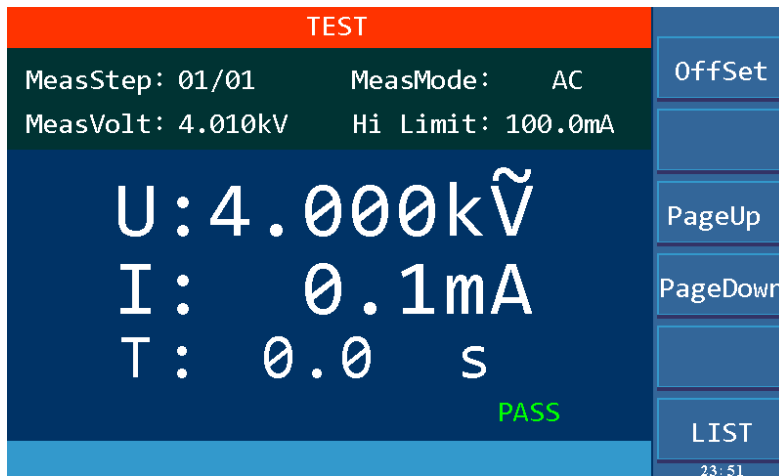
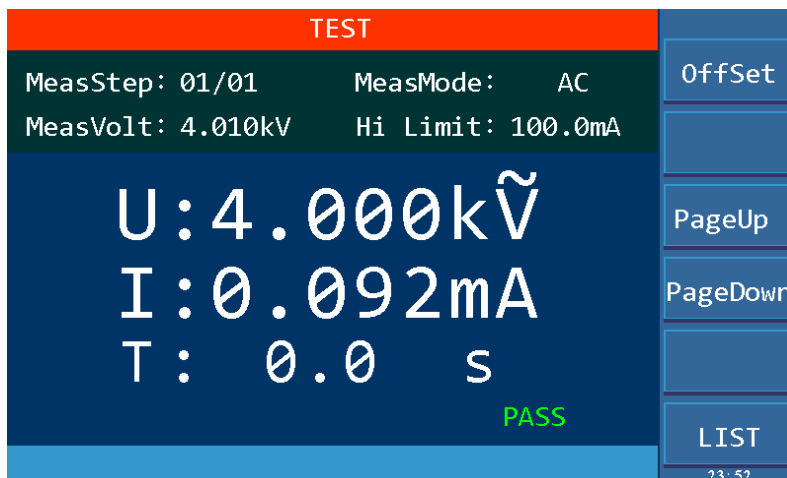

Figure4-4.2
Figure4-4.3
When the auto range, that is, the withstand voltage auto range function is set to ON, at 0.6S before the completion of the test, if the measured current can be expressed by the low current range, the current range is automatically changed to the low current range. Examples are shown in Figure 4-4.1 and Figure 4-4.2 and Figure 4-4.3.
2. But the actual current is comparatively small, 0.4mA as shown in Figure 4-4.2.
3. At 0.6S before the completion of the test, the current range is switched to the appropriate low range, which is 94.8uA in Figure 4-4.3.